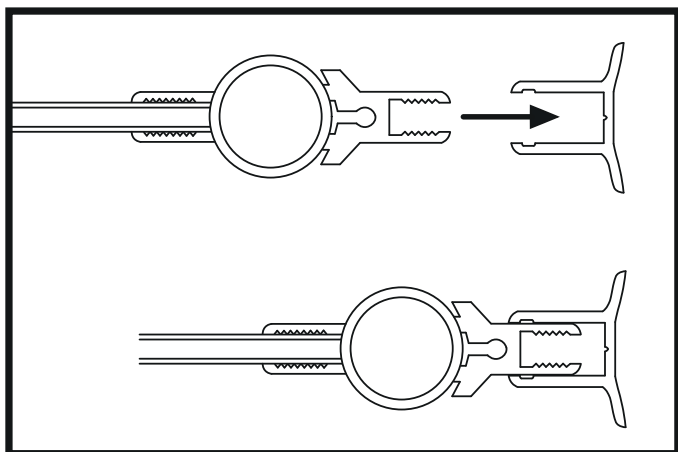

Figure 5
10. Make sure that the glass is properly secured inside the hinge profile and that the edge of the glass is plumb. (Figure 5)